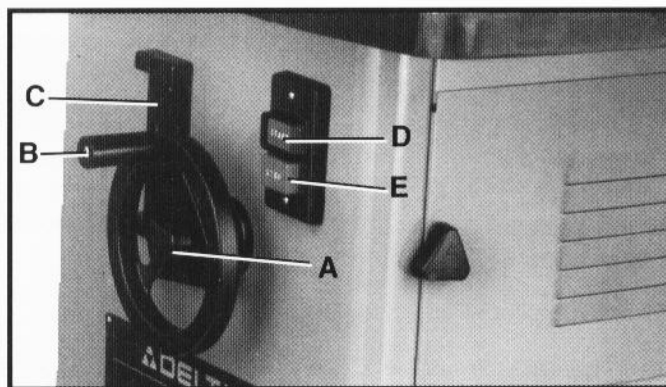

Fig. 20
The spindle can be raised or lowered by loosening lock knob (A) Fig. 20, and turning handwheel (B). To raise the spindle height, turn the handwheel (B), clockwise. To lower the spindle height, turn handle (B), counterclockwise.
The scale (C) Fig. 20, indicates the spindle travel range from 0 to 3" and is marked in 1/16" increments. Minor cutter height adjustments can be measured using the pointer along the scale (C). **CAUTION: Always tighten lock knob (A) after adjusting spindle height.**
The Start/Stop switch is mounted on the cabinet for easy accessibility. To start the machine, push the start button (D) Fig. 20; to stop the machine, push button (E).